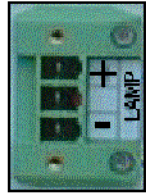

Fig. 1 : Main AC socket
- Extract fuse holder from the main socket with a flat screwdriver (see fig.1),